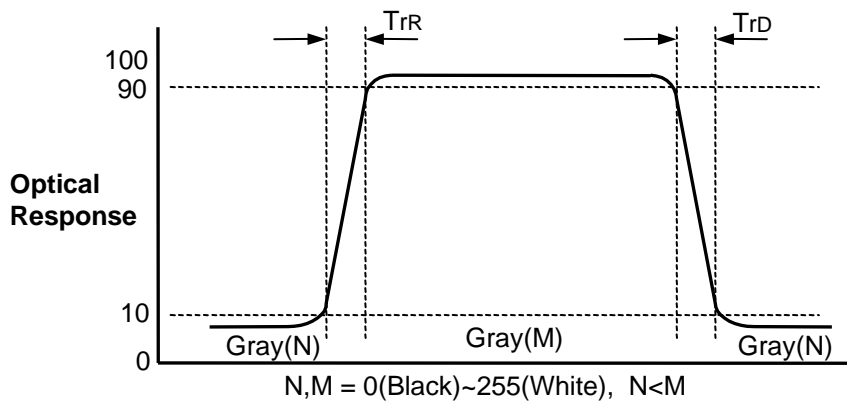

FIG. 3 Response Time
4. Response time is defined as the required time for the transition from G(N) to G(M) (Rise Time, Tr_R) and from G(M) to G(N) (Decay Time, Tr_D). For additional information see the FIG. 3. ($N < M$)